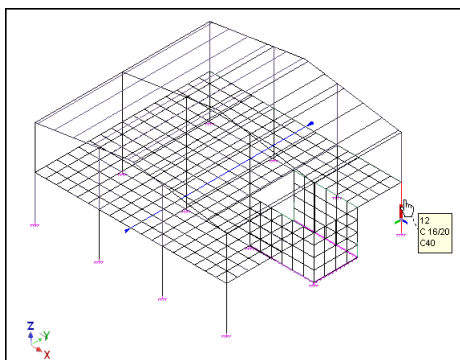

Figure 215: Selecting a column
1. Select a column of **GroundFloor**, as in Figure 215.